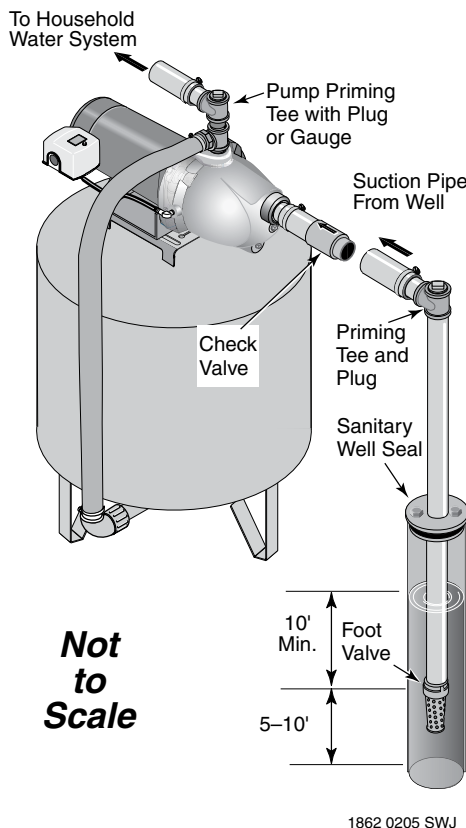

Figure 2: Cased Well Installation
CASED WELL INSTALLATION, 2” OR LARGER CASING (Figure 2)
Step 2. Assemble the foot valve, strainer, and well pipe (see Figure 2). Make sure that the foot valve works freely.
Step 4. Install a priming tee, priming plug, and suction pipe to the pump (see Figure 2). Connect the pipe from the well to the pump suction port, using the fewest possible fittings – especially elbows – as fittings increase friction in the pipe (however, include a foot valve – see Figure 2). The suction pipe should be at least as large as the suction port on the pump. Use PTFE pipe thread sealant tape on threaded pipe joints. Support the pipe so that there are no dips or sags in the pipe, so it doesn't strain the pump body, and so that it slopes slightly upward from the well to the pump (high spots can cause air pockets which can air lock the pump). Seal the suction pipe joints with PTFE pipe thread sealant tape. Joints must be air- and water-tight.